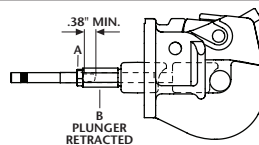

Figure 1
3. Use (6) .75" grade 8 fasteners, properly tightened.
- A. Loosen cylinder rod jam nut (A) as shown in Figure 1.
- B. Turn the plunger rod (B) out (counterclockwise) a distance equal to the difference between your mounting structure thickness and 1".
8. Check the plunger adjustment. When properly adjusted, the plunger should tightly grip a 1.25" round bar (or plunger adjustment tool TF-03147) when energized (see Figure 1) and retract far enough when de-energized to allow easy removal of the drawbar.